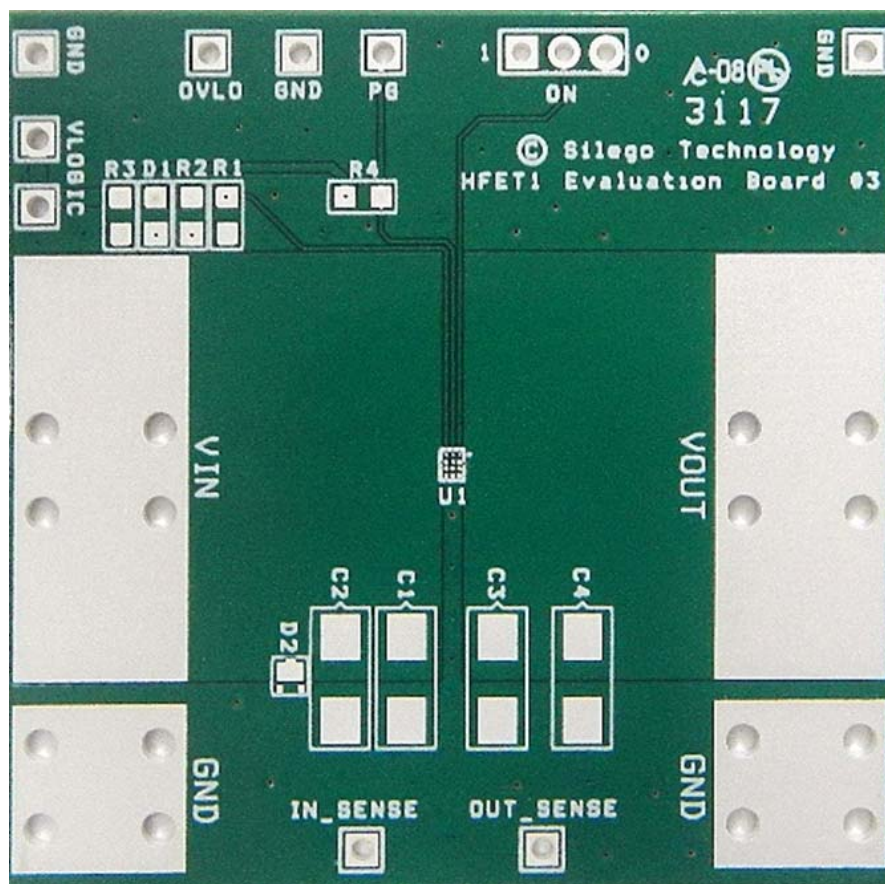

Figure 30. SLG59H1313C Evaluation Board
1. Since the IN and OUT pins dissipate most of the heat generated during high-load current operation, it is highly recommended to make power traces as short, direct, and wide as possible. A good practice is to make power traces with absolute minimum widths of 15 mils (0.381 mm) per Ampere. A representative layout, shown in Figure 30, illustrates proper techniques for heat to transfer as efficiently as possible out of the device;
A HFET1 Evaluation Board for SLG59H1313C is designed according to the statements above and is illustrated on Figure 30. Please note that evaluation board has D\_Sense and S\_Sense pads. They cannot carry high currents and dedicated only for RDSON evaluation.